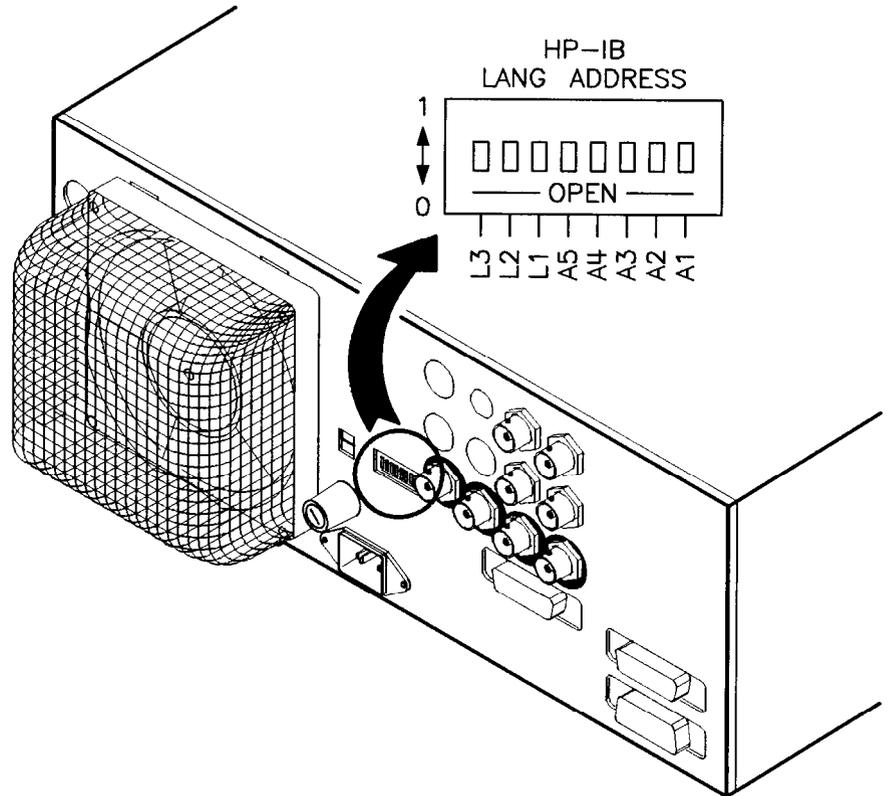

Figure 3-2. Rear Panel HP-IB Switch
Note To set a programming language from the front panel, the instrument language on the rear panel HP-IB switch (L1, L2, and L3 shown in Figure 3-2) must be set to 7 (all 1s).
Remember If the swept CW generator displays Rear panel HP-IB language must be 7 (111) in order to change current language (=XXX), the address on the rear panel HP-IB switch (Figure 3-2) is set to something other than 7 (all 1s).
If your swept CW generator does not have a front panel, set the rear panel HP-IB switch (Figure 3-2) for the language you want. (See Table 3-2 for language addresses.)
To set an HP-IB address from the front panel, the instrument address on the rear panel HP-IB switch (Figure 3-2) must be set to 31 (all 1s).
If the swept CW generator displays Rear panel HP-IB address must be 31 (11111) in order to change current address (=XX), the address on the rear panel HP-IB switch (Figure 3-2) is set to something other than 31 (all 1s).
To disable the address softkeys, set the instrument address on the rear panel HP-IB switch (Figure 3-2) to any address other than 31 (all 1s).
If your swept CW generator does not have a front panel, set the address on the rear panel HP-IB switch (Figure 3-2) to the address you want (factory default is 19).